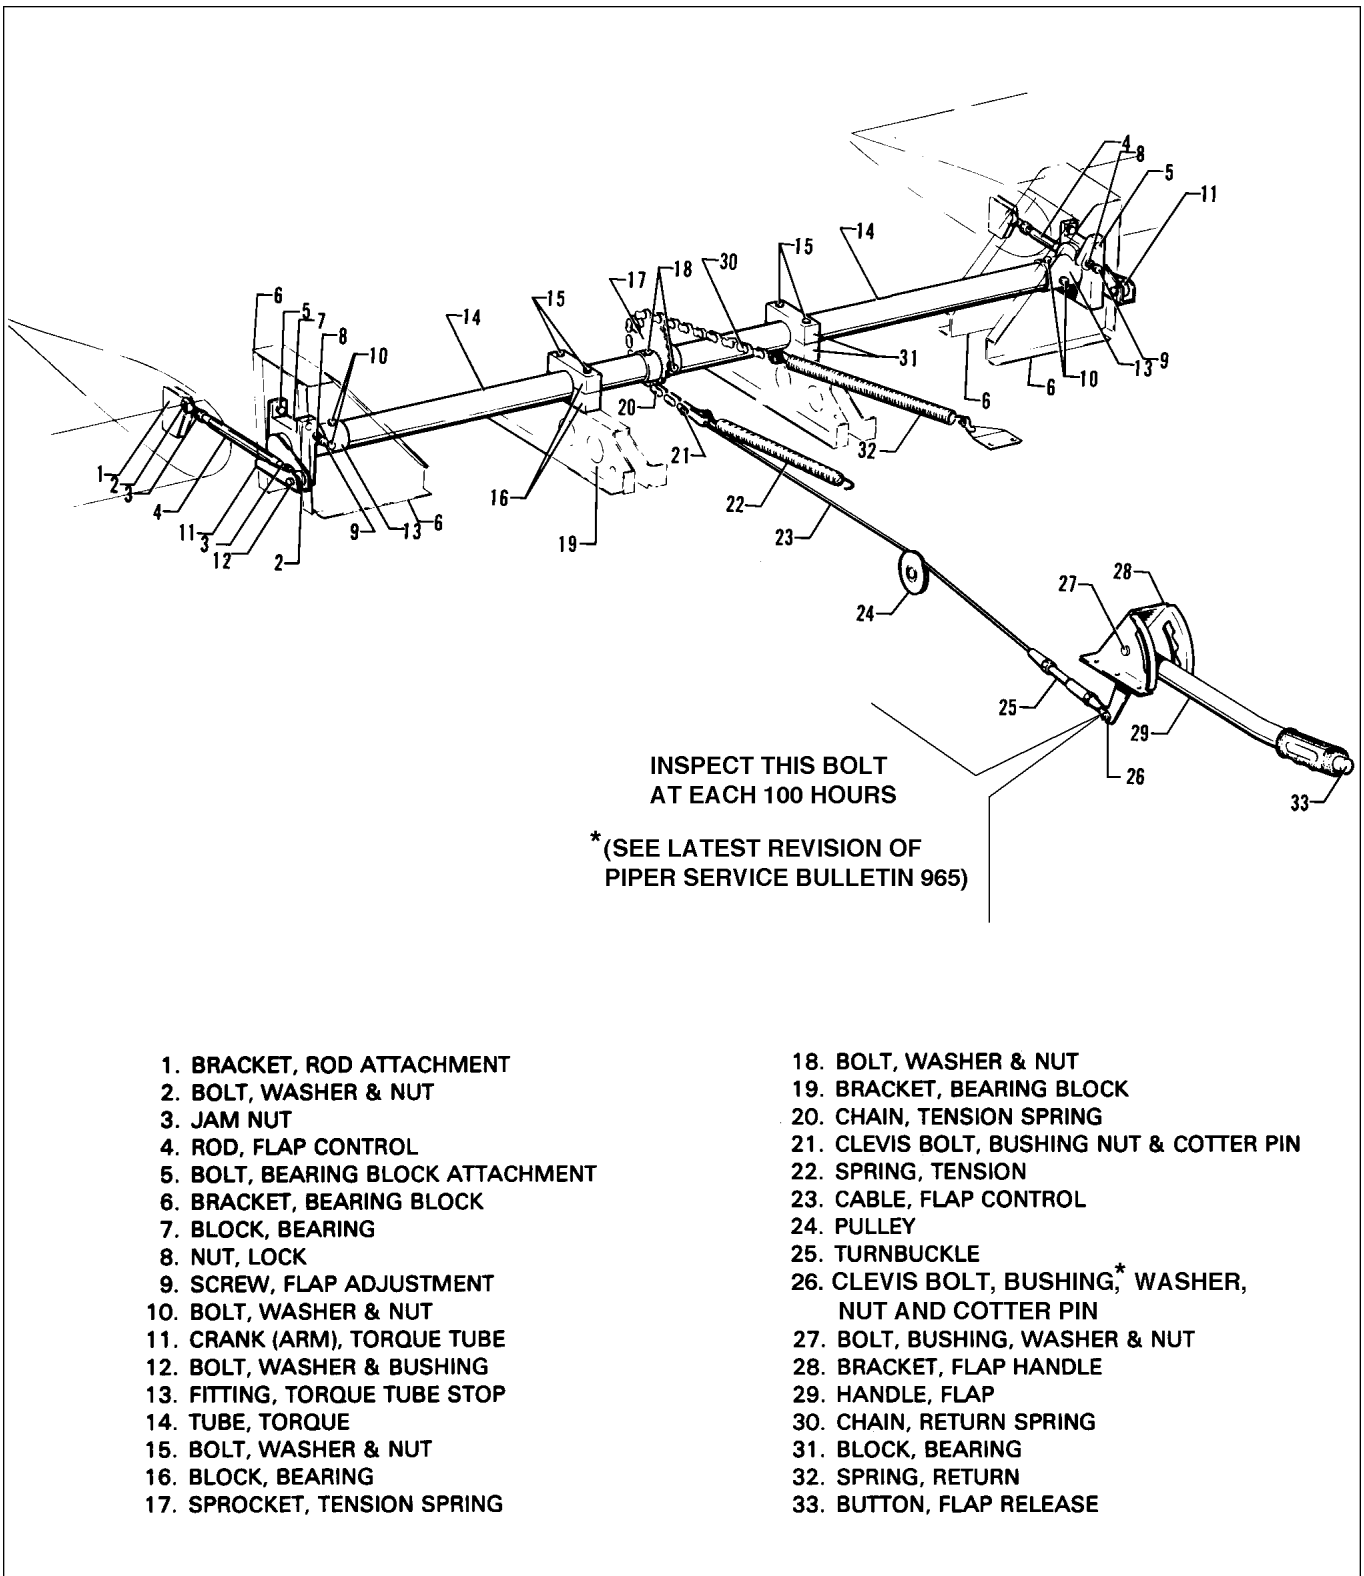

Figure 5-15. Flap Control System
- b. To adjust the flap up stop and step lock, loosen the jam nut of the right torque tube stop screw, located in the floor opening along the outer end of the flap torque tube, and turn the stop screw to obtain approximately .60 of an inch between the stop fitting and the bearing block as measured along the top side of the screw. (Refer to Figure 5-15.) It may be necessary to loosen the adjustment screw of the left stop.